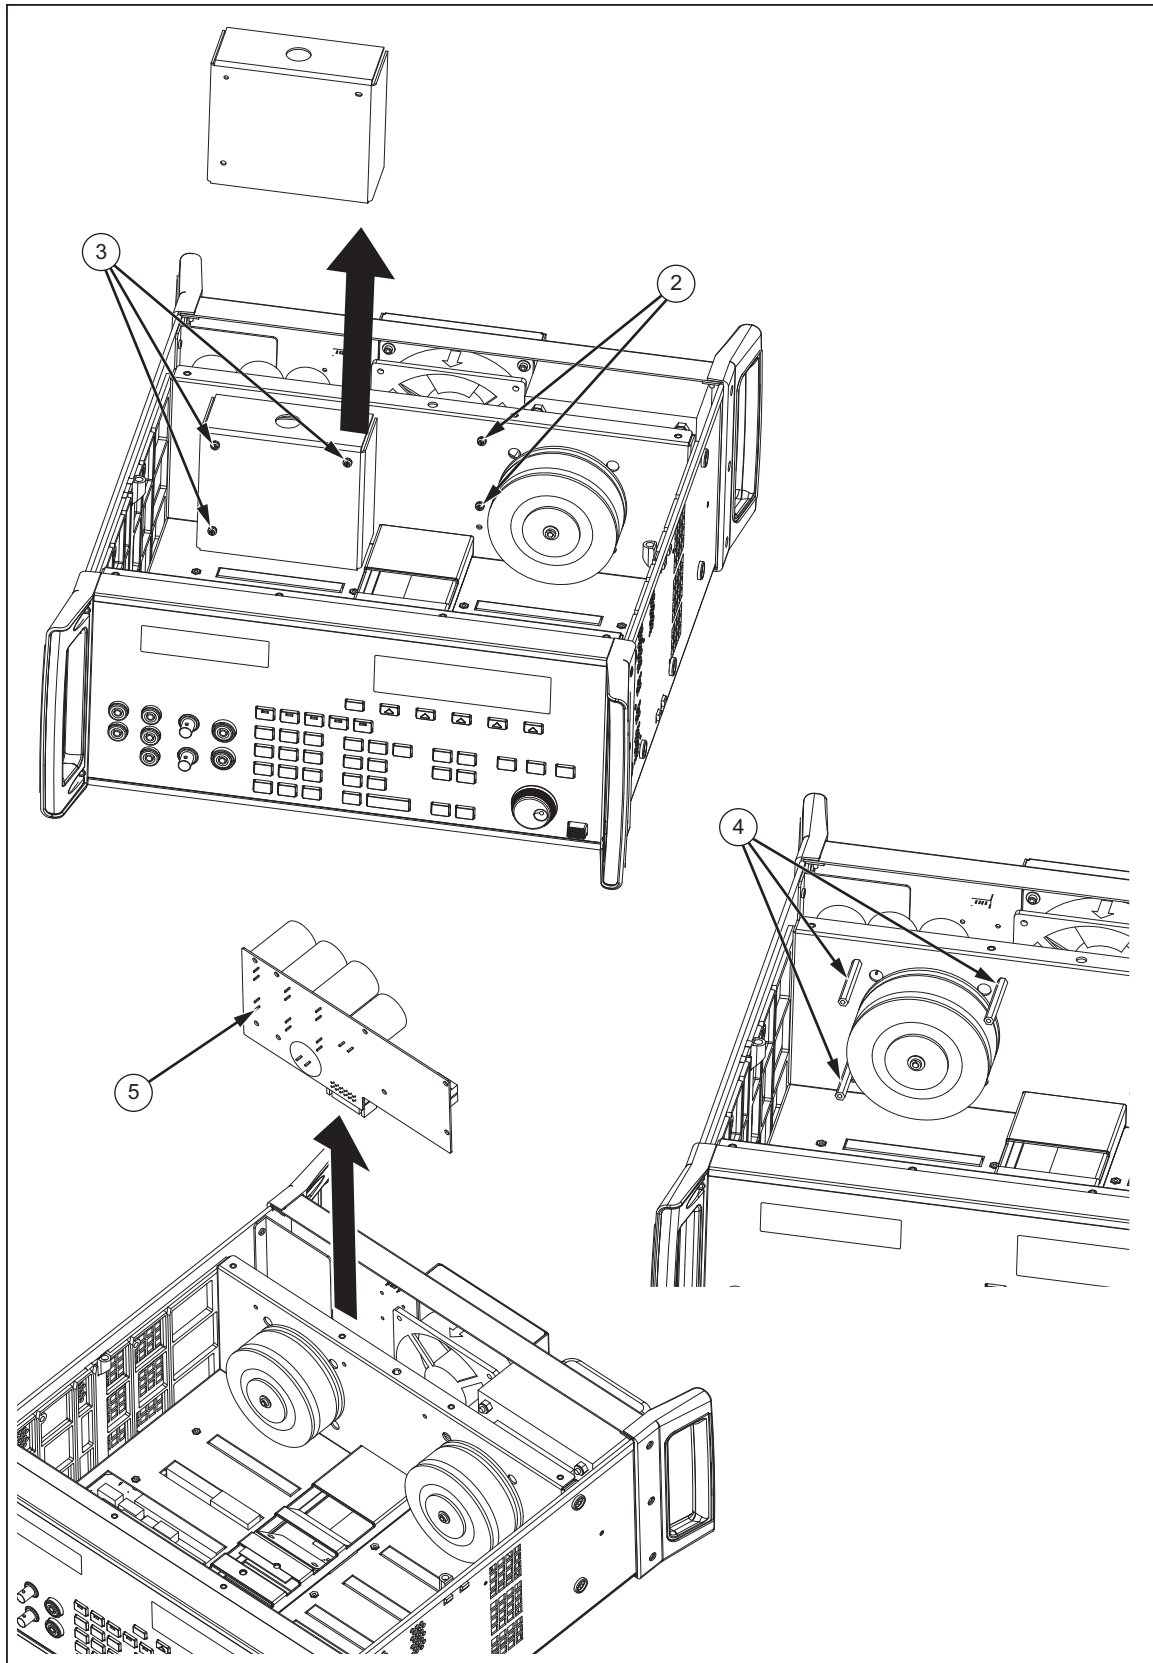

Figure 29. Remove Filter PCA (A12)
1. Remove the top cover, guard-box cover, and all the analog modules. See the *Analog Modules* section and Figure 29.